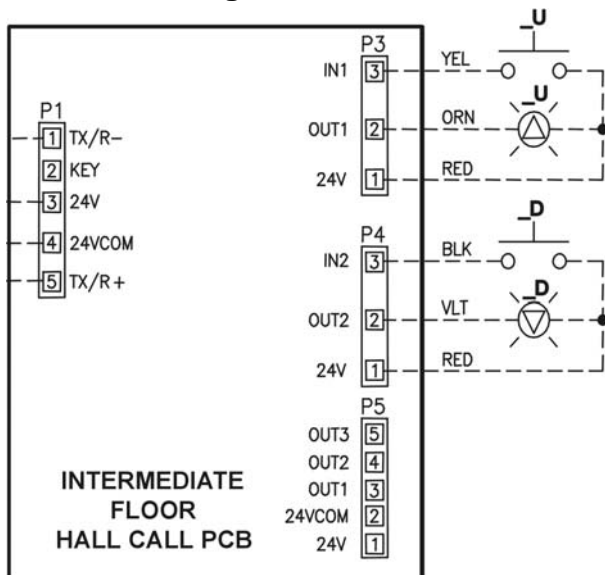

Figure 1-19
- Connect the Hall Push Button cable(s) to the P3 and/or P4 (3 pin) connector(s) on the HPU board. [See Figure 1-19.]